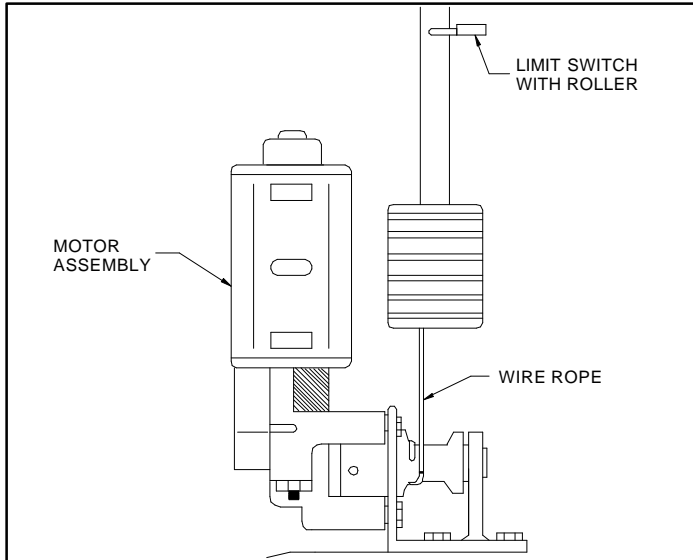

FIGURE 2-1: FRONT VIEW OF LEFT-SIDE POWER PARKING BRAKE
2. Refer to **Figures 2-1** thru **2-3**. Position the Power Parking Brake assembly under the parking brake lever as close as possible to the vehicle firewall and side panel. If possible, mount with the motor against the vehicle side panel. Be certain to align the Power Parking Brake spindle under the hole drilled in the parking brake lever.